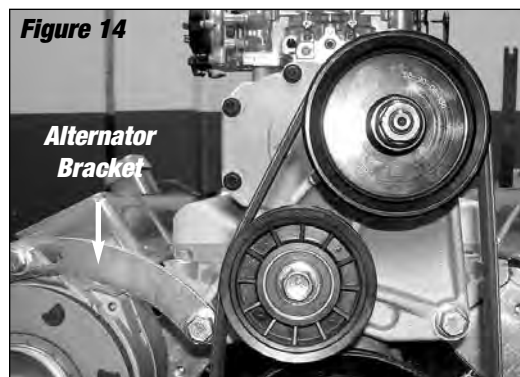

Figure 14
- A. For standard pulley applications, you will attach the bracket to the front of the intake manifold using two (2) of the 3/8-16 x 4" long x 2.75" shoulder bolts (**See Figure 14**). Install the Alternator Tensioning bracket under the passenger side bolt (**See Figure 14**). Align the tensioning bracket with the alternator and tighten the snout support/idler pulley bracket bolts. Install the alternator tensioning bolt, but do not tighten at this time.